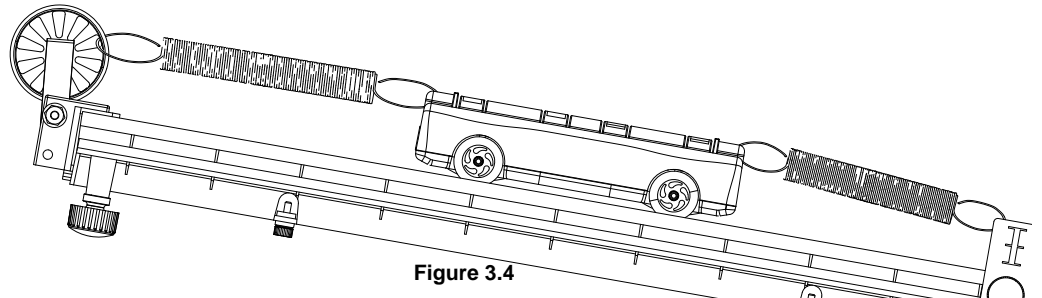

Figure 3.4
- Tie a loop of thread to the rubber cord holders at the end of the inclined PAStack. Arrange the GOcar with one spring at each end as shown in Figure 3.4 and repeat step 5.